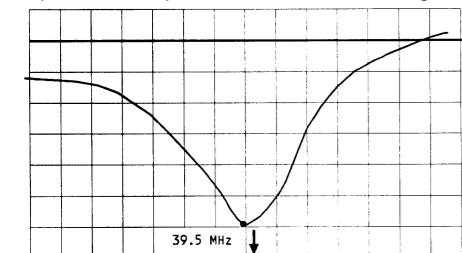

Fig. 3
B. ALIGNMENT STEP (SEE FIG.3)
1. Adjust T105 (TANK COIL) to obtain maximum amplitude of response at 39.5MHz as in Fig.3.